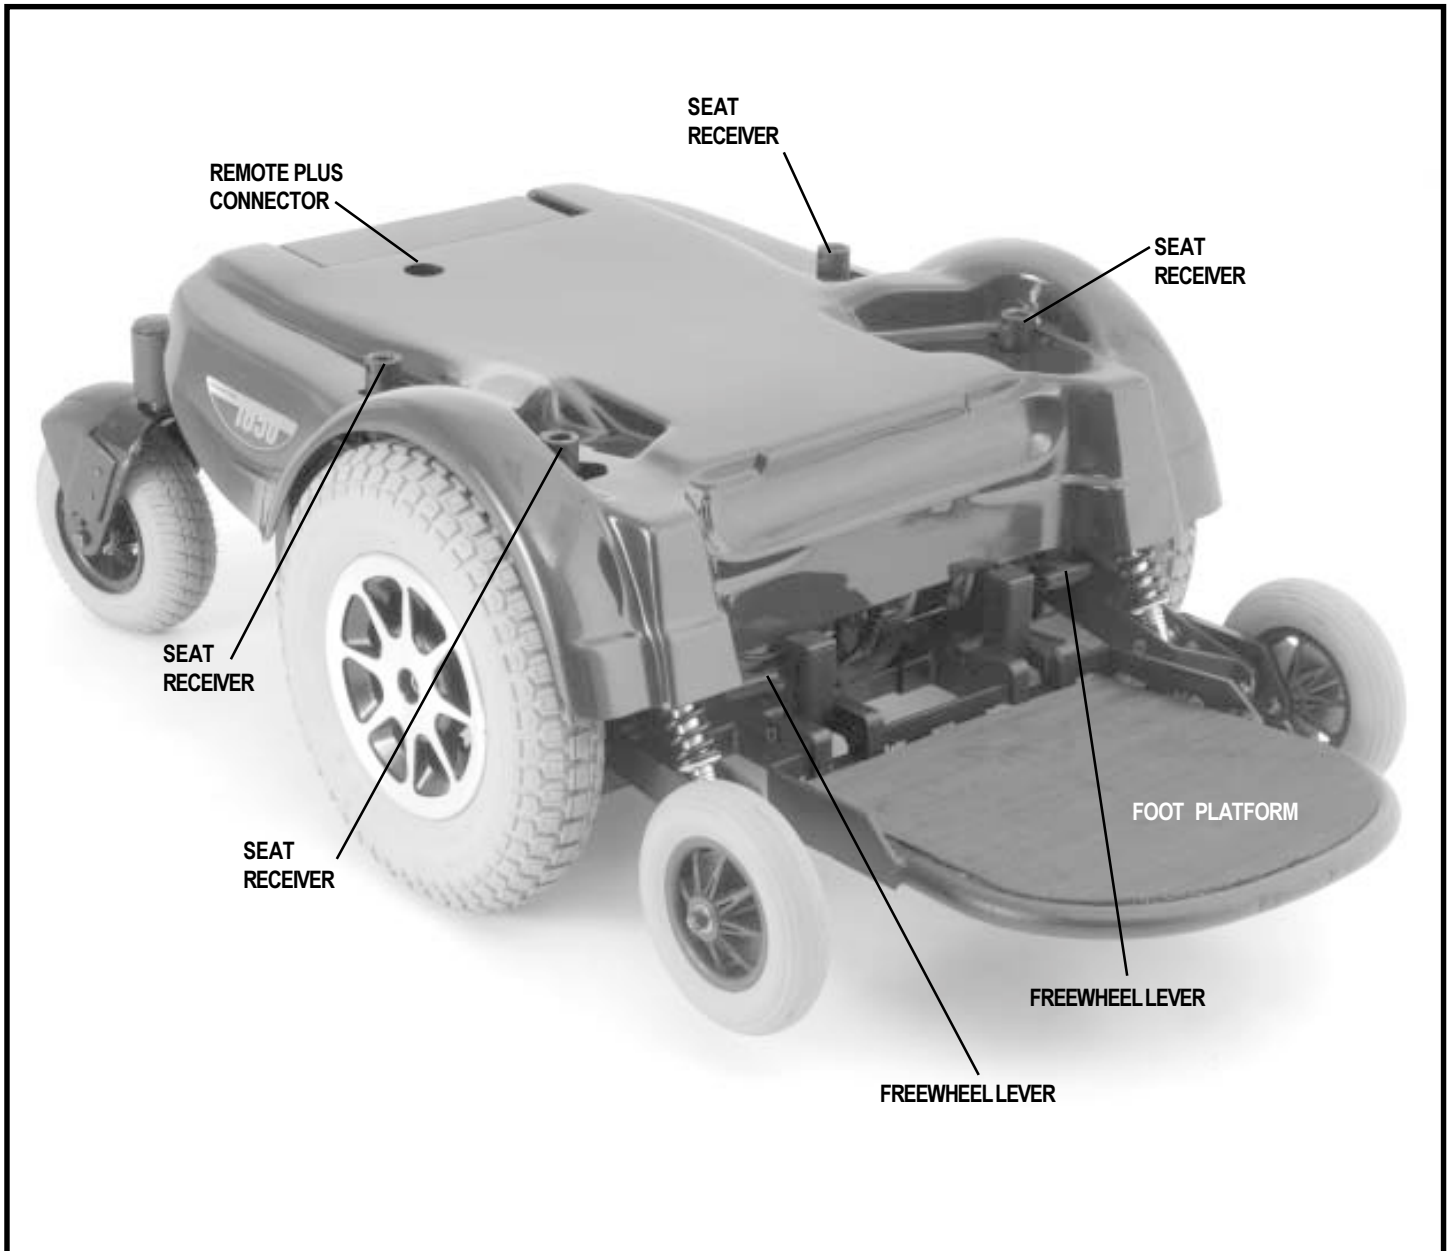

Figure 6. The Quantum Jazzy 1650 Power Base Without Shroud (4-battery configuration)
10. Plug the communications cable into the back of the Remote Plus and into the connector on the power base. See figure 6 and 17.